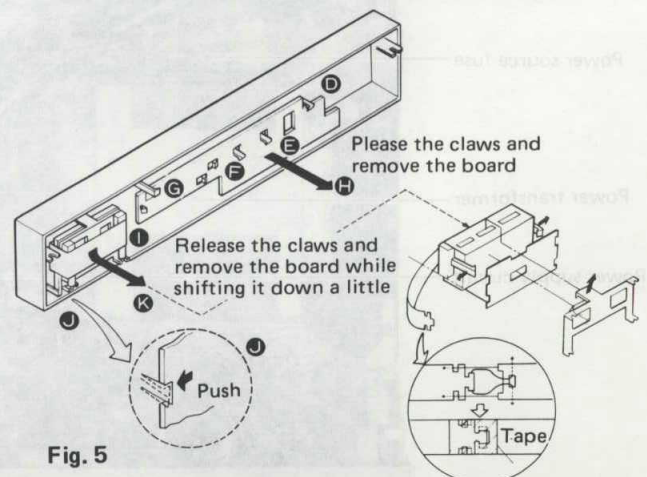

Fig. 5-1 How to set the film
4. Remove the volume indicating film (Fig. 5-1) and release the 2 claws of the film holder.